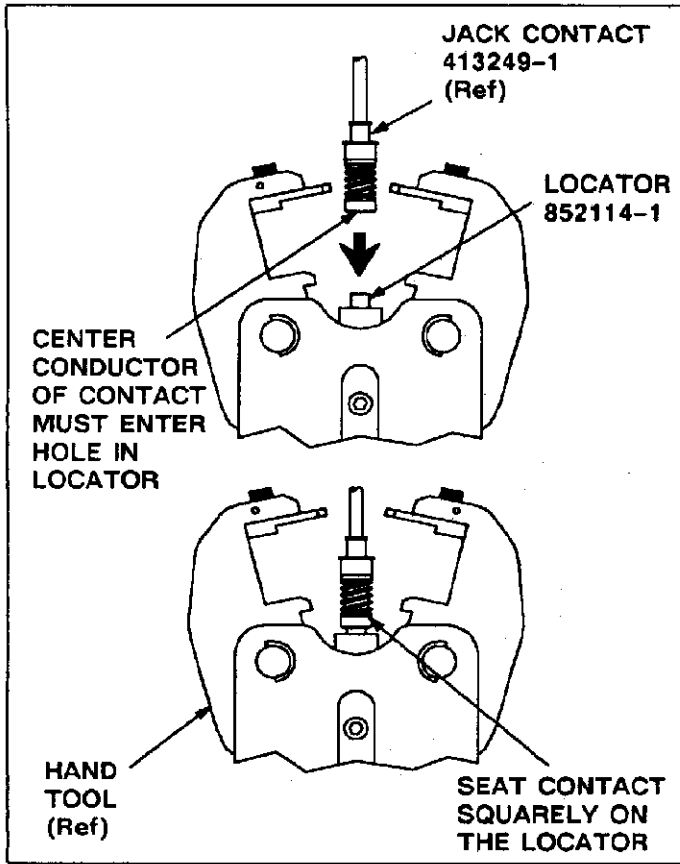

Fig. 4
- Place contact assembly, contact end first, inside locator of tool ensuring that the center conductor or center contact enters the hole of the locator. The contact must be seated squarely on the locator. See Figures 4 and 5.